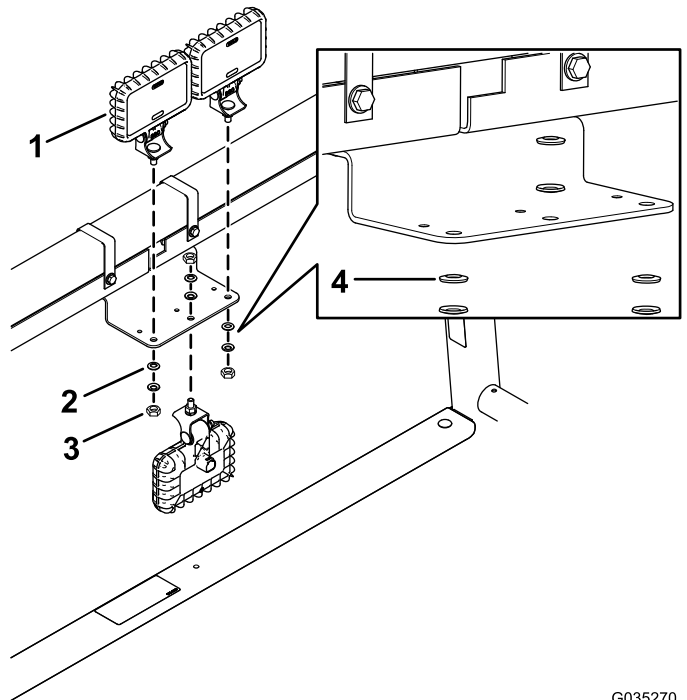

Figure 5
3. Install the 3 LED work lights to the work-light bracket with the 3 flange nuts (already installed on the LED work lights) and the 6 spring washers (Figure 5).
Note: Ensure that each spring washer is positioned so that the convex side faces the flange nut as shown in Figure 5.